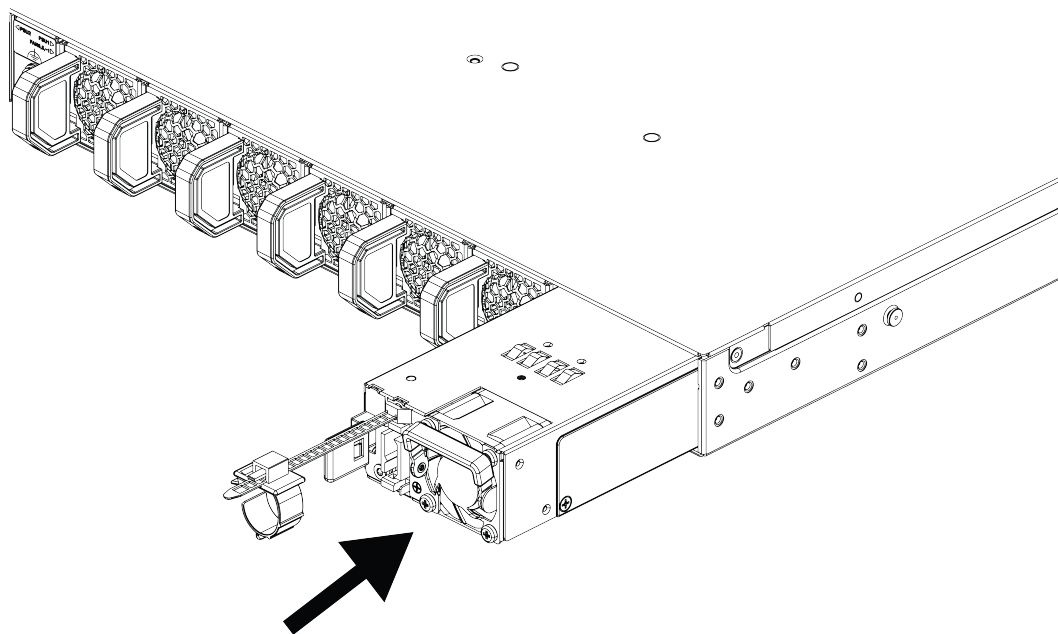

Figure 31: Replace an 800 W DC Power Supply
6. Carefully slide the power supply all the way into the power supply bay until the latch snaps into place, as shown in Figure 31.